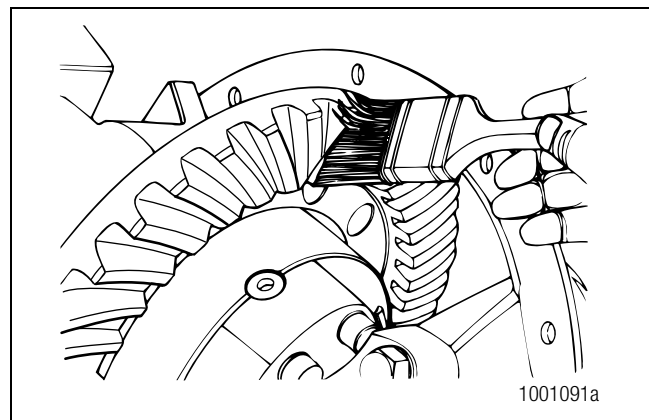

Figure 5.67
- Apply a marking compound onto approximately 12 gear teeth of the ring gear. Rotate the ring gear so that the 12 gear teeth are next to the drive pinion. Figure 5.67.